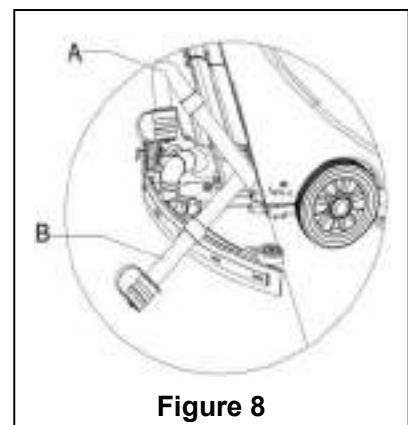

Figure 8
2. By using the squeegee handle (14), lift the squeegee.
4. Grasp the handlebar (2) and gently incline the machine backward until the guide wheel touches the floor. (For docking of the machine please refer to the procedures in the stopping of the machine section.)
5. Take off the draining hose from the fixation clip, bend the top end of draining hose (as shown in **A, Figure 8**), and then open the cover of draining hose, lower draining hose to a low level or on the ground to drain the water.
Alternatively, directly place draining hose to a low position or on the ground to make the water outlet face downward (as show in **B, Figure 8**), and then twist open the water draining lid to drain off the wastewater in the tank. After draining is completed, use pure water to cleanse the inside of recovery tank.
When draining the wastewater, the vacuum tube for waste must be folded or lowered to a lower position (as shown in Figure 8 A or B), and then open the lid of the vacuum tube for waste to drain the water. Do not make the outlet of the vacuum tube for waste face upward to drain the water vertically. This is to avoid wastewater spilling onto the operator.